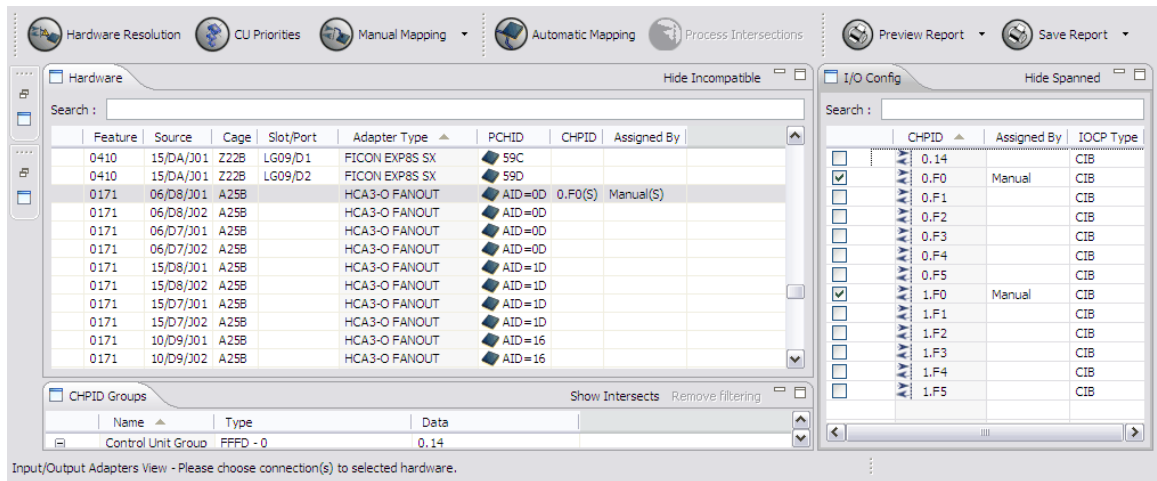

Figure 121. Multiple check marks for a spanned CHPID after selection of a single check box
- 1) There may be cases in which you select a single check box but the tool automatically selects additional check boxes. This occurs because the CHPID you selected is spanned, as is its associated CSS. Any additional CHPIDs are assigned to the same PCHID. Figure 121 on page 95 shows an example in which the user selected 0.F0 and the tool automatically selected 1.F0.